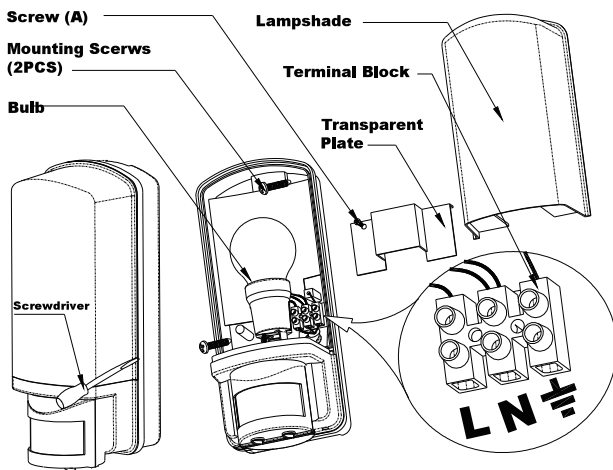

Fig. 2 Mounting and Wiring to Terminal
Installation the bulkhead light, please referring to the Fig.2
6. Connecting the main power wires to the **Terminal Block** (see the relative symbols—Fig.2), the **Cable** must pass through the **Wiring Rubber Gasket**.